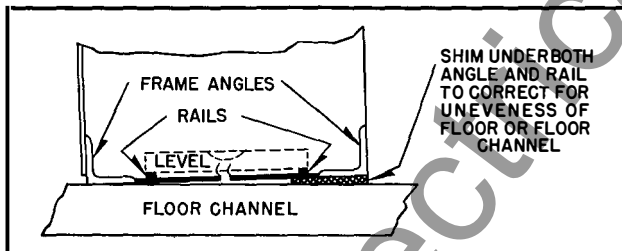
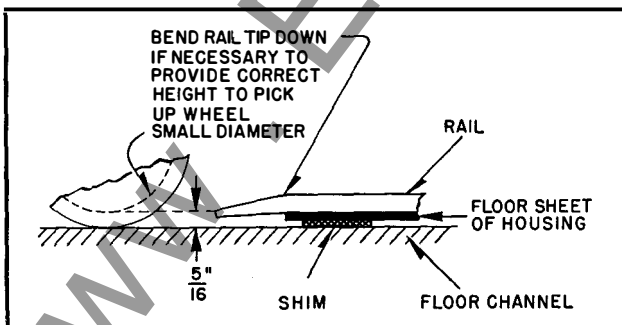

FIG. 18. Leveling the Units with Shims
FIG. 19. Adjusting Rail Tips
5. With an accurate level check the rails for levelness, both laterally and longitudinally. These level checks should be made at points just inside the front doors and also about a foot from the rear barrier. Elevation errors should be corrected by inserting shims under the rails and side frame angles as shown in Fig. 18. These shims should always be inserted at the points where the units are to be fastened to the floor channels. If considerable shimming is required, the rail tips should be bent down slightly as shown in Fig. 19 to pick up the small wheel diameter when breaker is rolled into the housing.